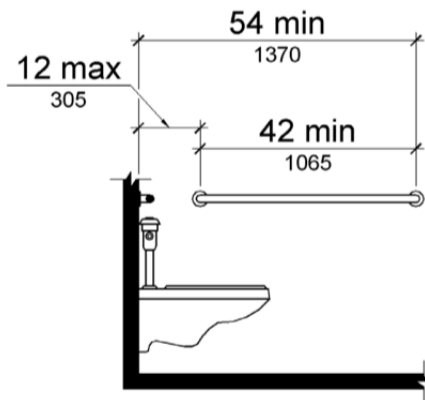

Figure 604.5.1
- b) See attached 2010 ADA Figures 604.5.1, 604.5.2 for additional grab bar information